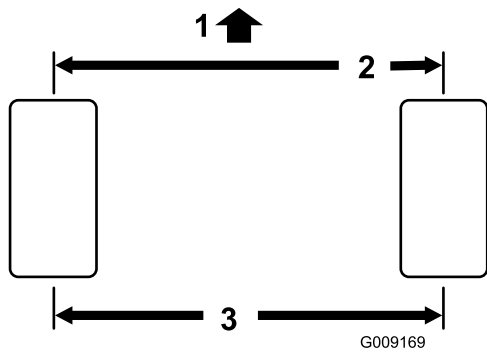

Figure 72
2. Measure the center-to-center distance (at axle height) at the front and rear of the steering tires (Figure 72).